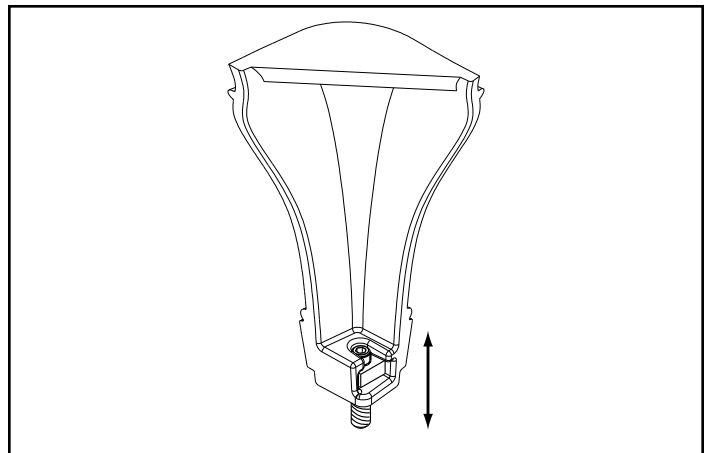

Figure 22.5
10. Use Allen wrench to adjust legs up and down to desired level (**Figure 22.5**).